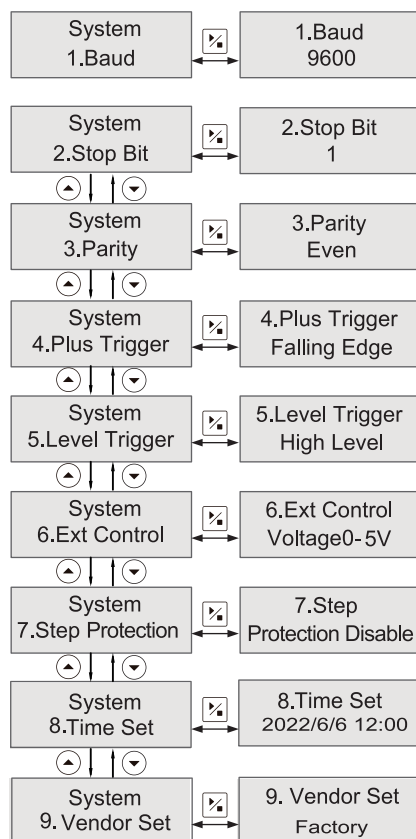

Figure 5 Flow Chart of System Parameter Setting
In the main interface, press  +  to enter the parameter setting interface of the system. In this interface, press  +  to select advanced parameters, press  to enter the submenu, and press   to adjust the parameters in the submenu. If you want to return to the previous menu, press . If you want to return to the main interface, press . Refer to Figure 5 for specific operations:
- Press   to select the mode. This is shown in Figure 5 below: